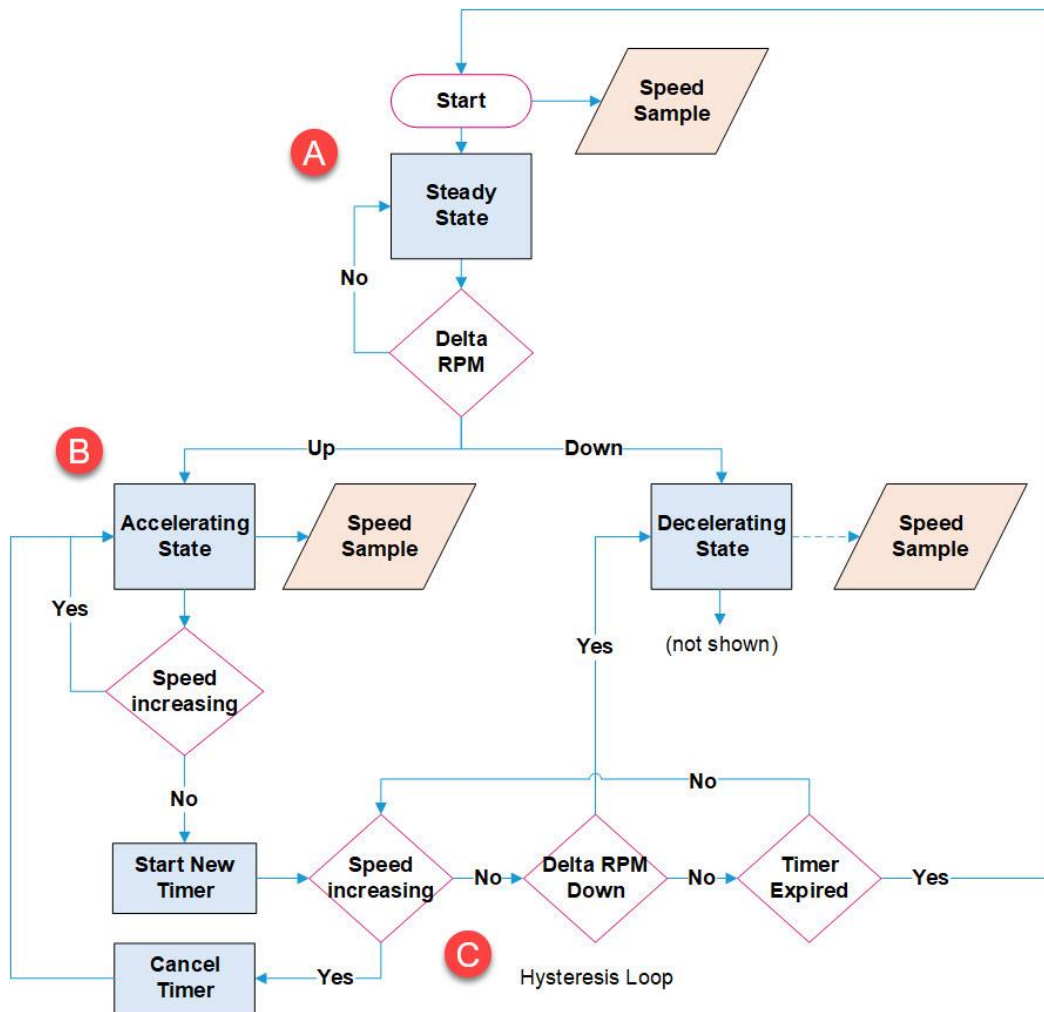

Figure 8-10) Machine Accelerating - State Evaluation
When the Phase Trigger becomes valid (see **Figure 8-10**), a speed reference is saved, and the machine-state equals Steady State (A). The speed is then checked every 40 msec. When the speed increases by the Delta RPM setting (Phase Trigger channel) the machine-state changes to Accelerating (B). If the speed value continues to increase, the machine-state remains Accelerating.
A hysteresis timer (C) prevents erratic machine-state changes. The timer is three shaft rotations, based on the last sample speed value, or 80 msec, whichever is longer. If the machine-state has stopped accelerating, the timer starts. When the timer expires, the state changes to Steady State. If the machine starts to accelerate again (before the timer expires) the timer is canceled, and the state remains Accelerating (B). **Figure 8-10** shows a simplified diagram of this process.